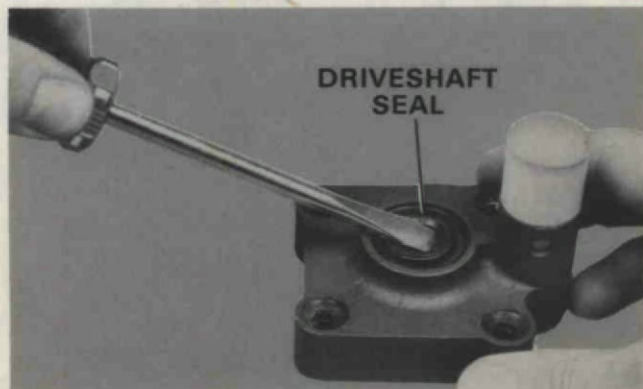

Figure 20. Removing Driveshaft Seal.
A. Pry seal out of bore of pump body. Figure 20.